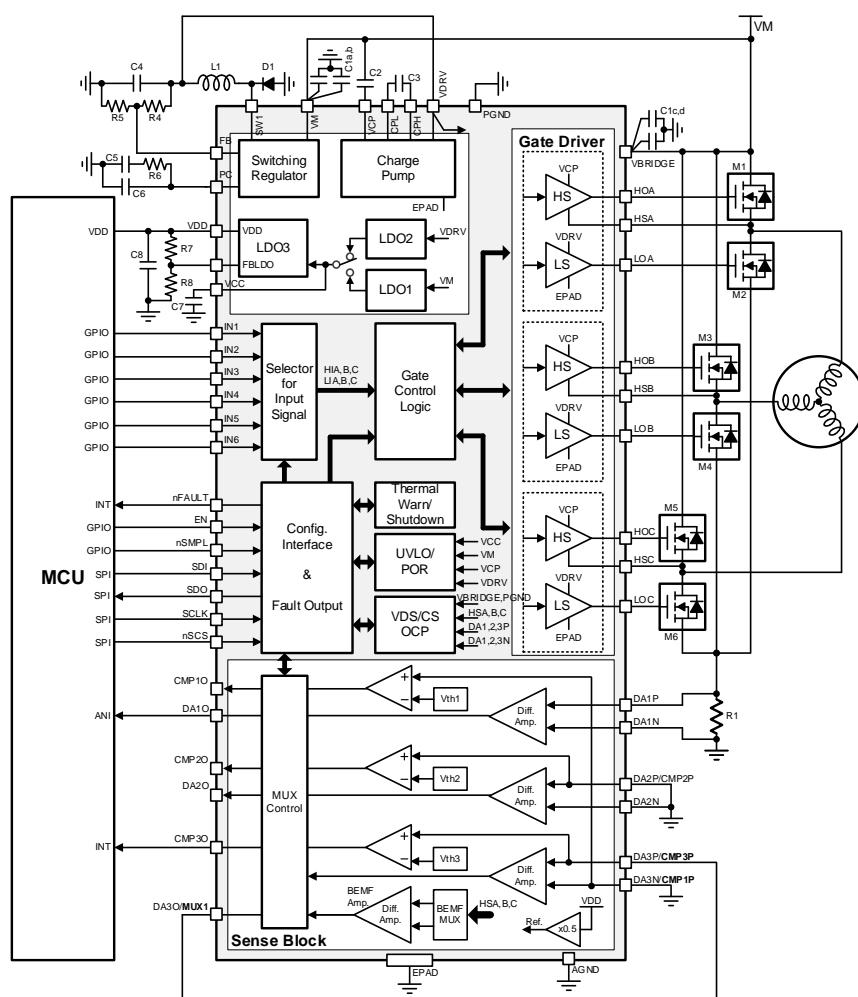

Figure 2-4 Simplified Application Block Diagram – Sensor-less Motor Drive by BEMF Sensing Comparator
**Figure 2-4** shows an example of a simplified application block diagram and application for sensor-less motor drive by BEMF sensing comparator.
In sensor-less motor drive by BEMF sensing comparator, the motor is controlled by switching the energized phase according to the induced voltage (BEMF) generated by the motor rotation. Motor position detection is performed by detecting the BEMF zero crossing using a general-purpose comparator or an A/D converter in the MCU in addition to the BEMF sense amplifier built into the smart gate driver. When using the general-purpose comparator built into the smart gate driver as a method to detect the BEMF zero crossing, connect the DA3O/MUX1 pin to the CMP2P pin or the CMP3P pin. **Figure 2-4** shows an example of input to the CMP3P pin. When using the A/D converter in the MCU as a method to detect the BEMF zero crossing, connect the DA3O/MUX1 pin to the A/D converter input port. When using a comparator in the MCU, connect the DA3O/MUX1 pin to the comparator input port to be used.